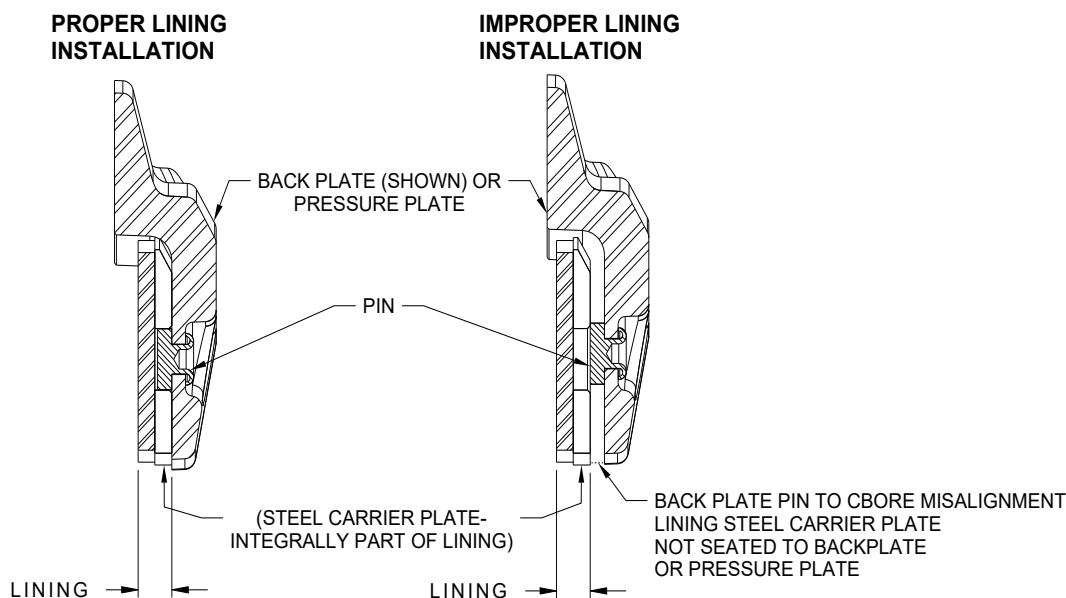

Figure 201 - Pin Installation, Metallic Lining
The minimum wear thickness for replacement of metallic linings is 0.100 inch (2.54 mm). Ref. Appendix A, Figure A1. The metallic lining is a sintered metal composition and is attached by torque pins which fit into the back surface (steel carrier plate) of the lining. The holes for the pins are not visible on the lining surface unless the lining is worn beyond its wear limit. Ref. Figure 201.
- 6 Apply a light film of spray adhesive to steel carrier plate of lining and install lining segment onto pins. Fit of counterbores of the lining segments with pins can be a clearance to press fit depending on lining segment part numbers. Check to ensure the steel carrier plate is tight against the pressure plates / back plates. Ref. Figure 201.
- 8 Actuate brake pedal prior to towing or taxiing. Check lining for proper alignment and engagement onto pins. Lining steel carrier plate should be seated on back plate or pressure plate. Ref. Figure 201